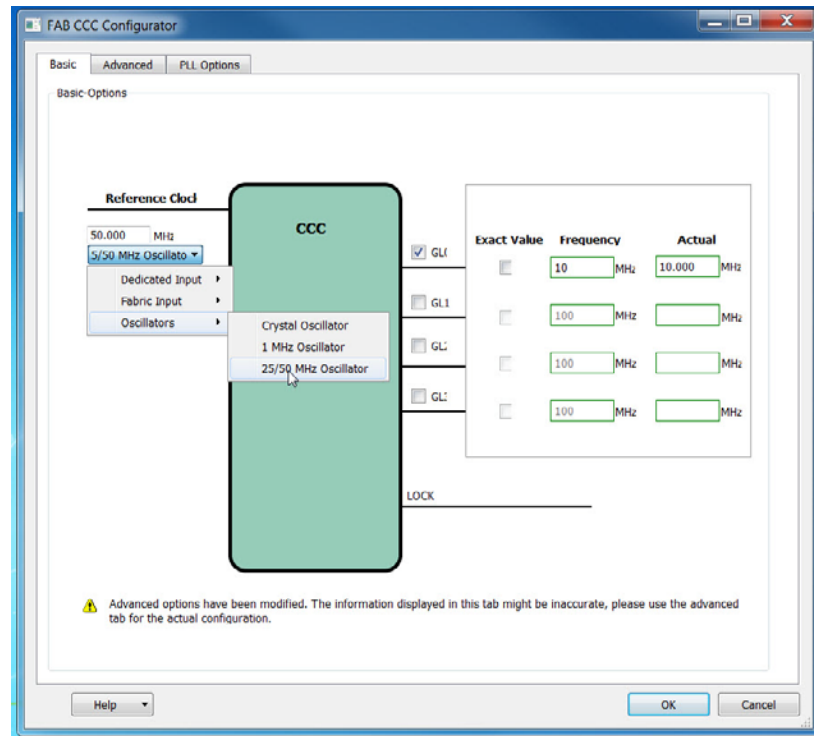

Figure 3-4 • FCCC Configurator
11. Click the **Basic** tab. For the Reference Clock, select **Oscillators** and then **25/50 MHz Oscillator** (**Oscillators** > **25/50 MHz Oscillator**). Click **OK** to close the FAB CCC Configurator (Figure 3-4).